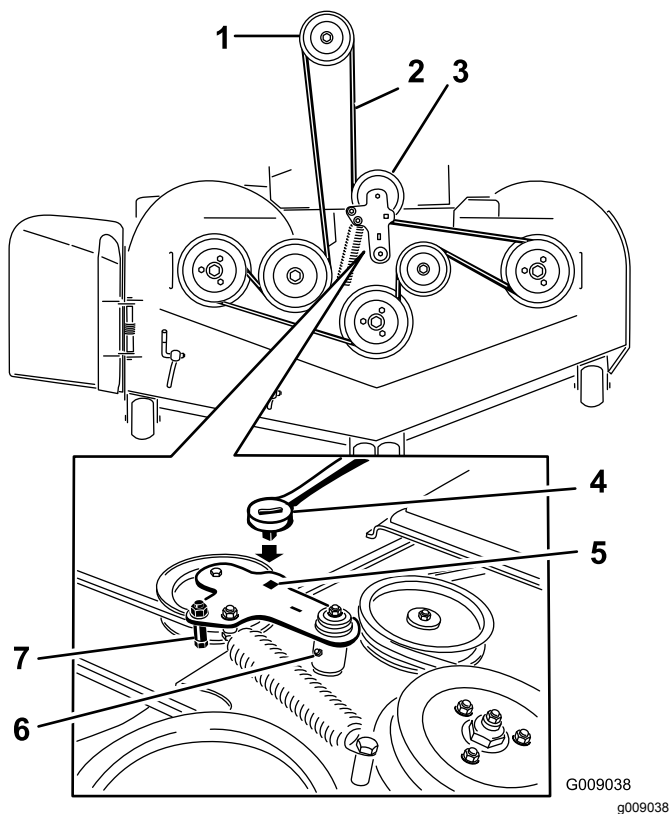

Figure 84
7. Use a ratchet in the square hole in the idler arm to remove tension on the idler spring (Figure 84).
9. Remove the belt guide on the spring-loaded idler arm (Figure 84).
11. Install the new belt around the mower pulleys and the clutch pulley under the engine (Figure 84).
12. Install the belt guide on the idler arm (Figure 84).
13. Using the ratchet in the square hole, install the idler spring (Figure 84).